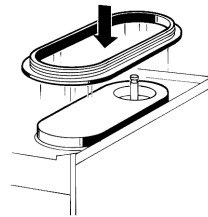

figure 4
- 3 Fit the bowl gasket to the evaporator. Note: the largest brim of the gasket must face against the drip plate (see figure 4).